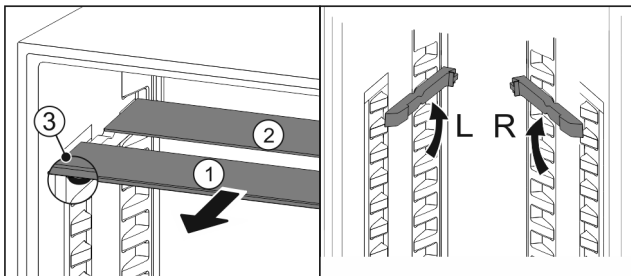

Fig. 127
- ▶ Pull the glass panels out Fig. 127 (1) from the front, one at a time.
- ▷ The glass panel Fig. 127 (1) and trim strip are at the front.
- ▷ The stops Fig. 127 (3) point down.